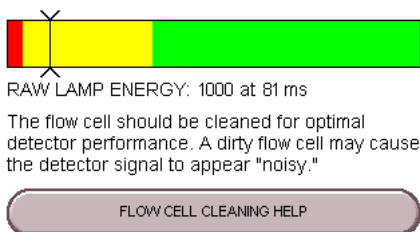

Figure 7-5 Raw Lamp Energy Gauge
2. From the Manual Control window (Figure 7-5), note the Raw Lamp Energy level at 254 nm. The Raw Lamp Energy gauge has three ranges: red, yellow, and green.
If the numerical values of the Raw Lamp Energy (Figure 7-5) do not change, or if the first number remains at zero, contact Teledyne Isco's Technical Service department.